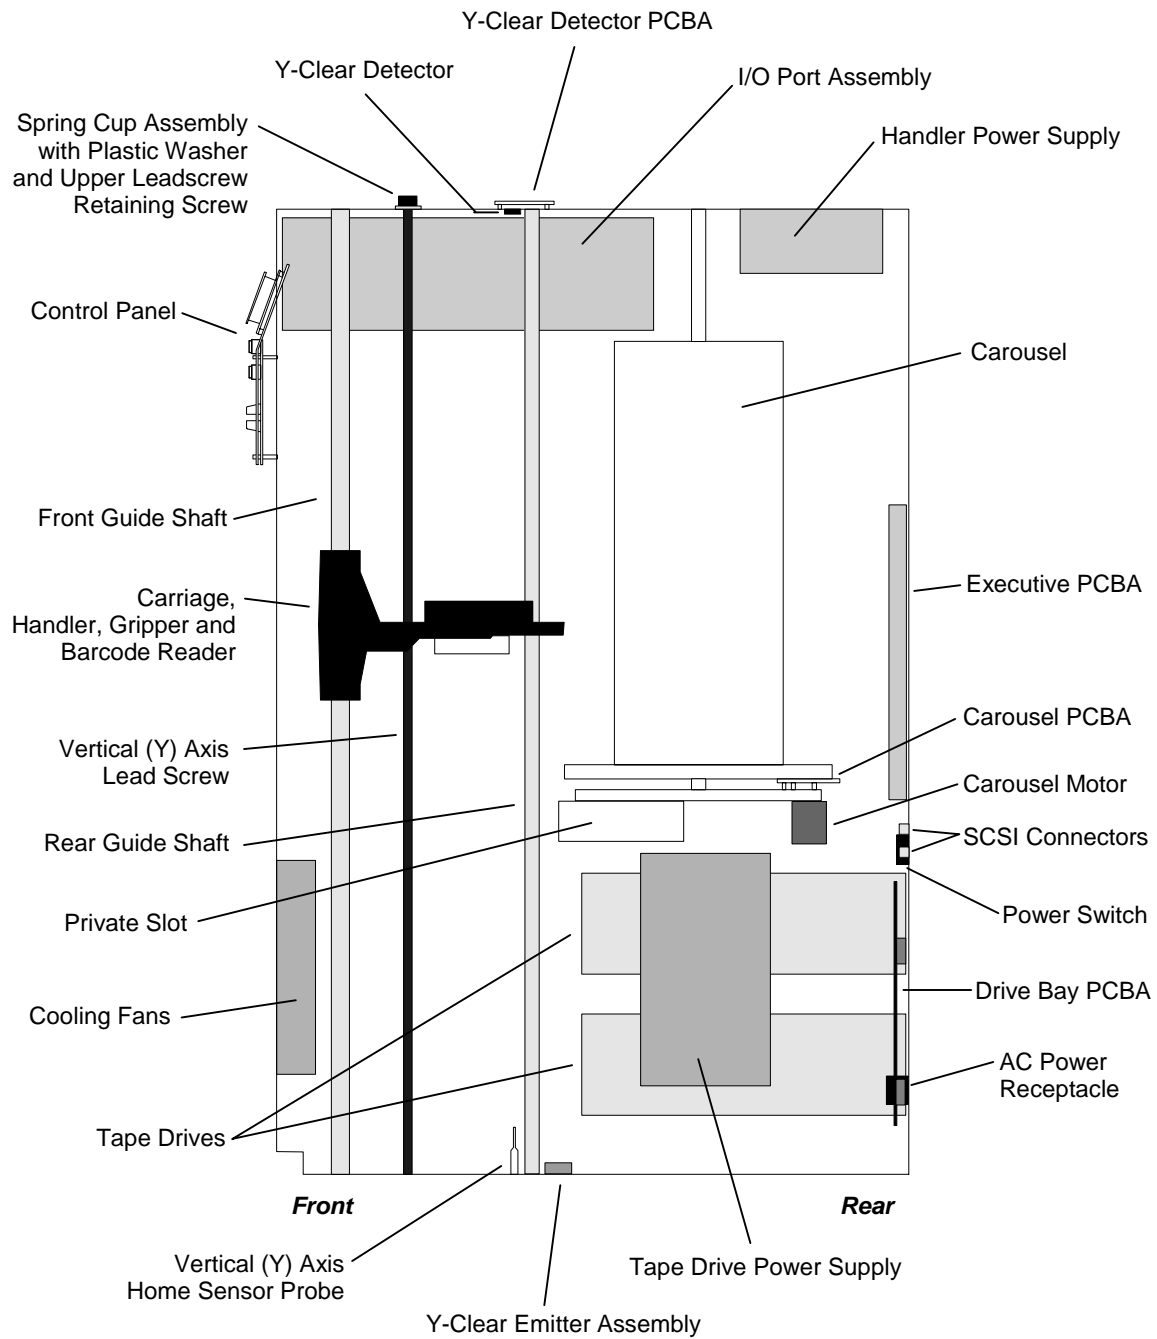
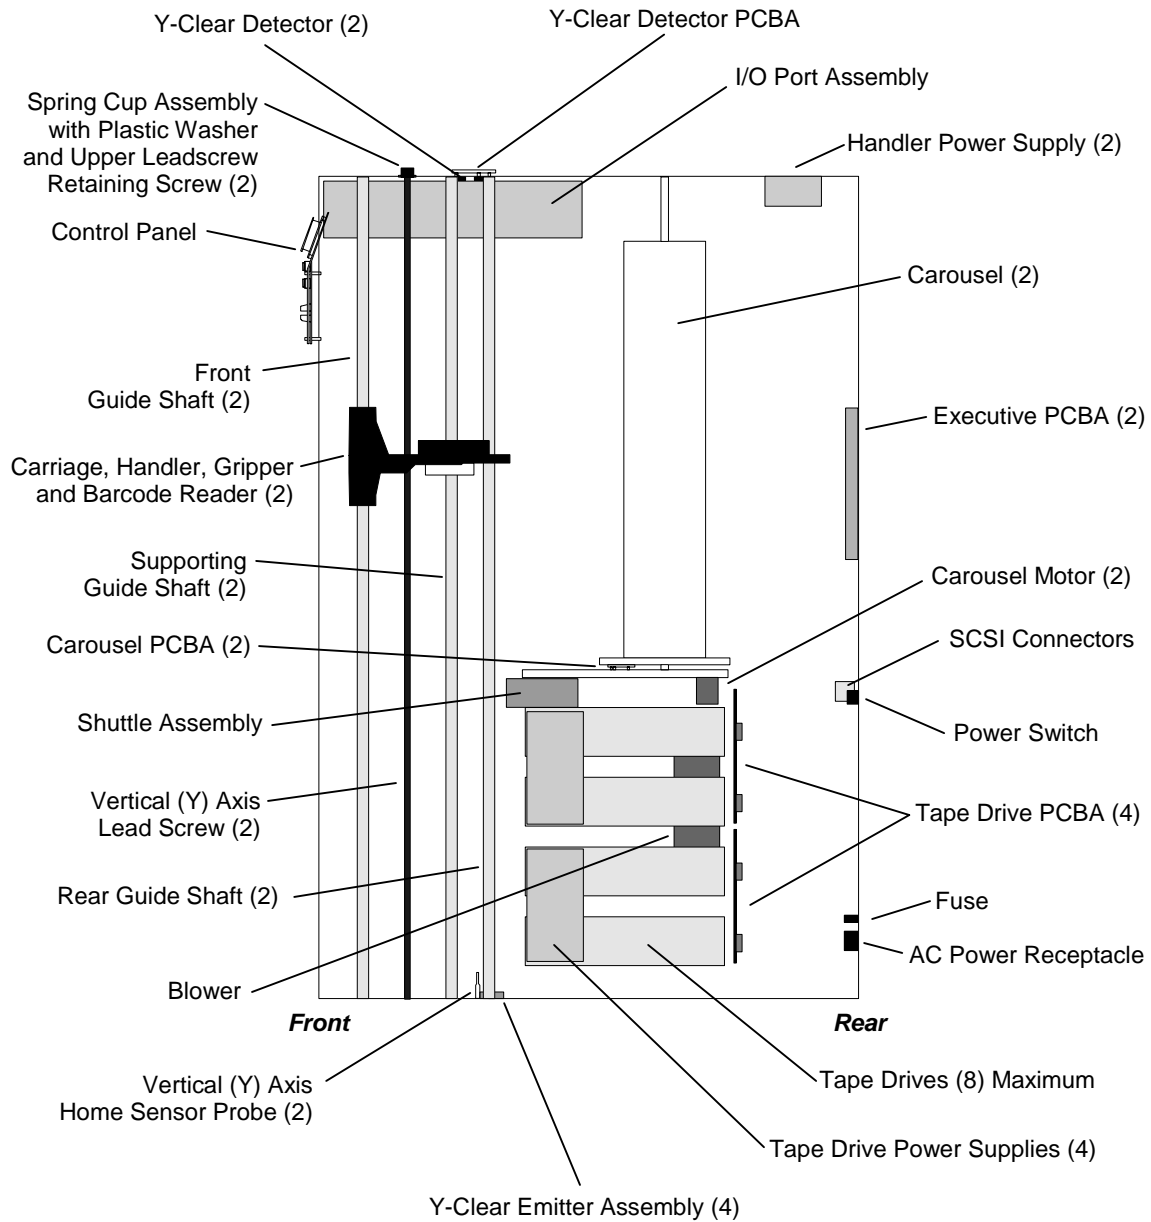
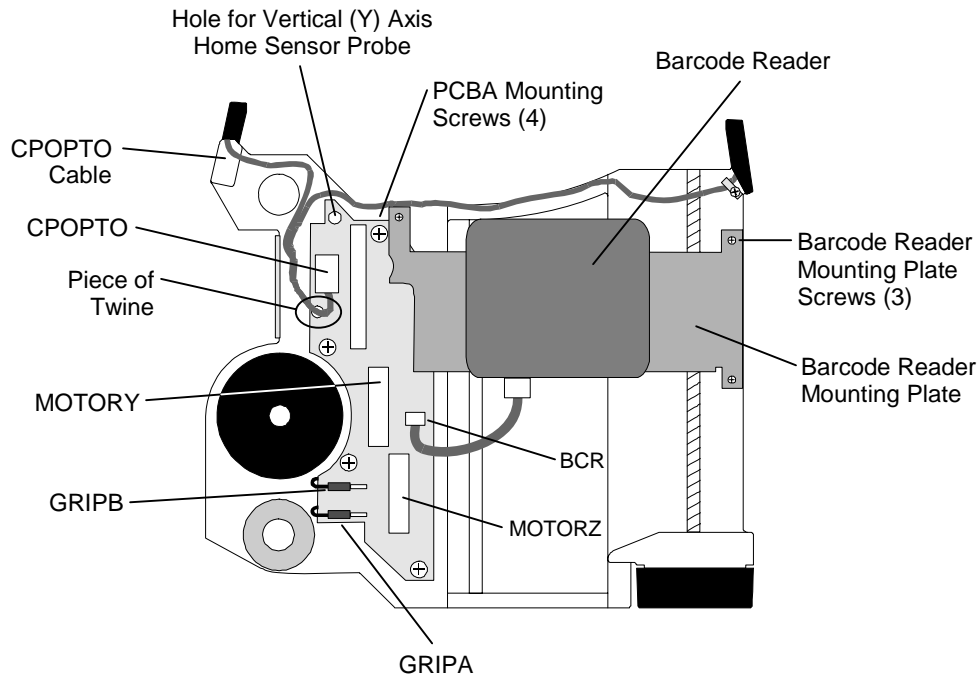

Figure 7-4 Single Bay TLS Side View
Figure 7-5 Dual Bay TLS Side View
Figure 7-14 Carriage PCBA (Single Bay Handler Bottom View)
Be very careful not to damage a Vertical (Y) Axis Home sensor while removing a Carriage Assembly. There is very little clearance between the sensors (underneath and to the rear of the Carriage Assemblies) and the Vertical (Y) Axis Home Sensor Probes (Figure 7-4 and Figure 7-5), which are mounted on the floor of the cabinet.
The Teflon[®] coating on the Leadscrew is easily scratched. Please handle the Leadscrew with care. The Leadscrew and Spring Cup Assembly will be removed as a subassembly (Figure 7-4 or Figure 7-5).
Be very careful not to damage the Vertical (Y) Axis Home Sensor on the Vertical Axis Home Sensor Probe (Figure 7-4) when you move the Carriage Assembly.
17. Hold the Carriage Assembly with the left hand. Failure to do so will cause the Carriage Assembly to tip over after the shaft is removed, possibly damaging the Vertical (Y) Axis Home Sensor. Lift the front Guide Shaft far enough to clear the Carriage Assembly. Gently lift the Carriage Assembly and remove it from the cabinet, then lower the front Guide Shaft down onto the bottom plate.
Be very careful not to damage a Vertical Axis Home sensor while removing a Carriage Assembly. There is very little clearance between the sensors (underneath and to the rear of the Carriage Assemblies) and the Vertical Axis Home Sensor Probes (Figure 7-4 and Figure 7-5), which are mounted on the floor of the cabinet.
3. Insert the bottom end of one Guide Shaft (the end without the white spacer) into the front Guide Shaft hole in the top plate (Figure 7-4 or Figure 7-5), then gently lower the Guide Shaft down through the hole. This is best accomplished by resting the hand holding the shaft on the top plate, and then guiding the shaft from inside the TLS with the other hand.
5. Slowly lower the Carriage Assembly, while using a gentle rocking motion, until the Vertical (Y) Axis Home Sensor Probe (Figure 7-4 or Figure 7-5) fits into the hole in the Carriage PCBA (Figure 7-14), and the Carriage Assembly rests on the orange rubber bushing on the bottom plate.
7. Lower the Rear Guide Shaft down through the Rear Guide Shaft bearing in the Carriage Assembly (Figure 7-4 or Figure 7-5) and into the hole in the bottom plate.
Refer to Figure 7-14.